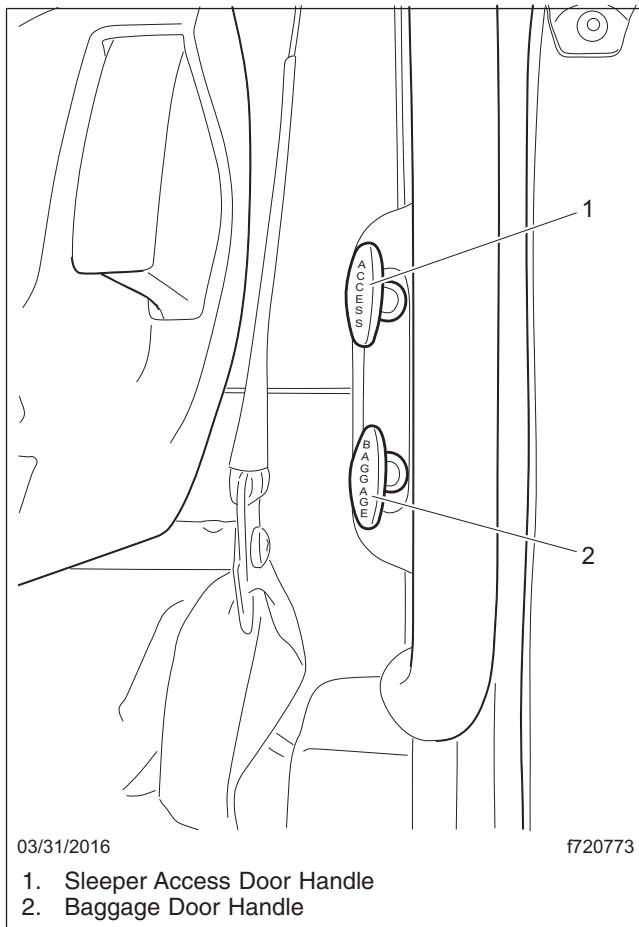

Fig. 2, Sleeper Door Release Handles
1. Open the baggage door and the sleeper access door, if equipped, by pulling the release handle(s) located inside the cab door opening. See Fig. 2.